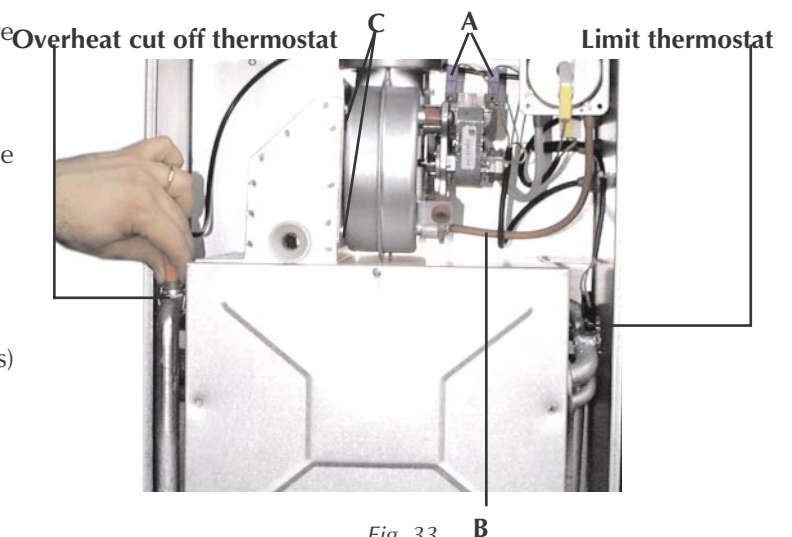

Fig. 33
## 7.10 Removal of fan (fig. 33)
## 7.11 Limit thermostat, or overhear cut off thermostat (fig. 33)
- Identify the location of thermostat from fig. 33